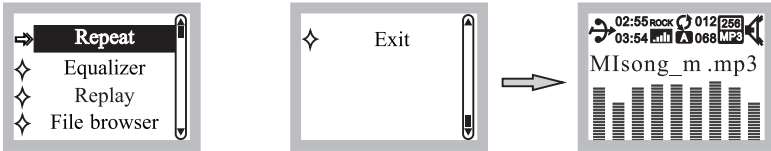

Fig. 10
(D) Panel Operating Instructions: During track playing, press & hold PLAY/PAUSE  button to enter music parameter selection for changes. Press PLAY/PAUSE button and then press PRV/TEN  or NEXT/ TEN  to locate the desired parameter. Press PLAY/PAUSE to confirm change and save, Fig. 10.